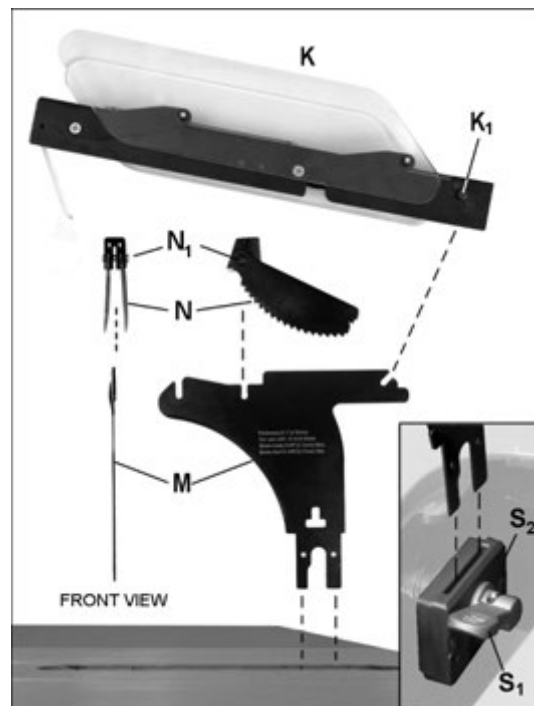

Figure 6-10: installing guard assembly
See Figure 6-10.
- Position anti-kickback pawl assembly (N, Figure 6-10) so that angled side of pawl block faces toward front of saw, as shown.
- Lower pawl assembly onto center notch of riving knife, with pawls straddling knife. Push and hold button on pawl block (N1, Figure 6-10), and push pawl block down until it securely engages in notch.